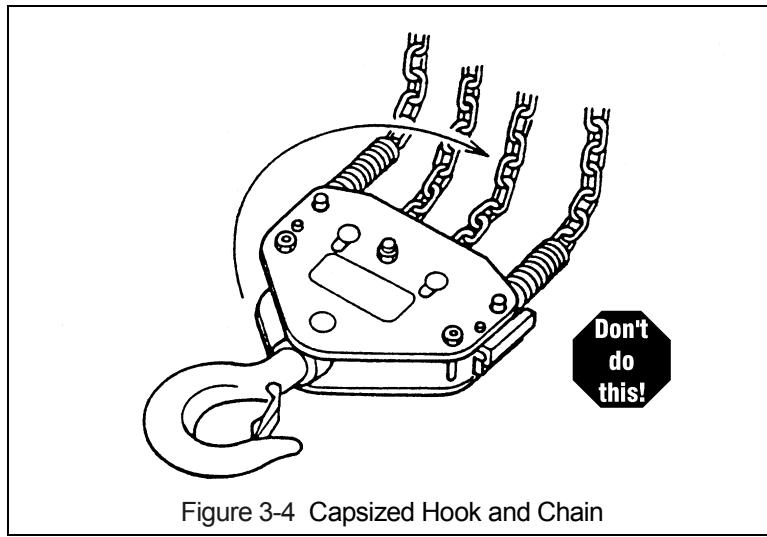

Figure 3-4 Capsized Hook and Chain
- 3.2.6 **⚠ WARNING** Verify that the load chain is not twisted or tangled prior to operating the hoist. Make sure the bottom hook is not capsized. See Figures 3-4. Correct all chain irregularities before conducting the first hoist operation.